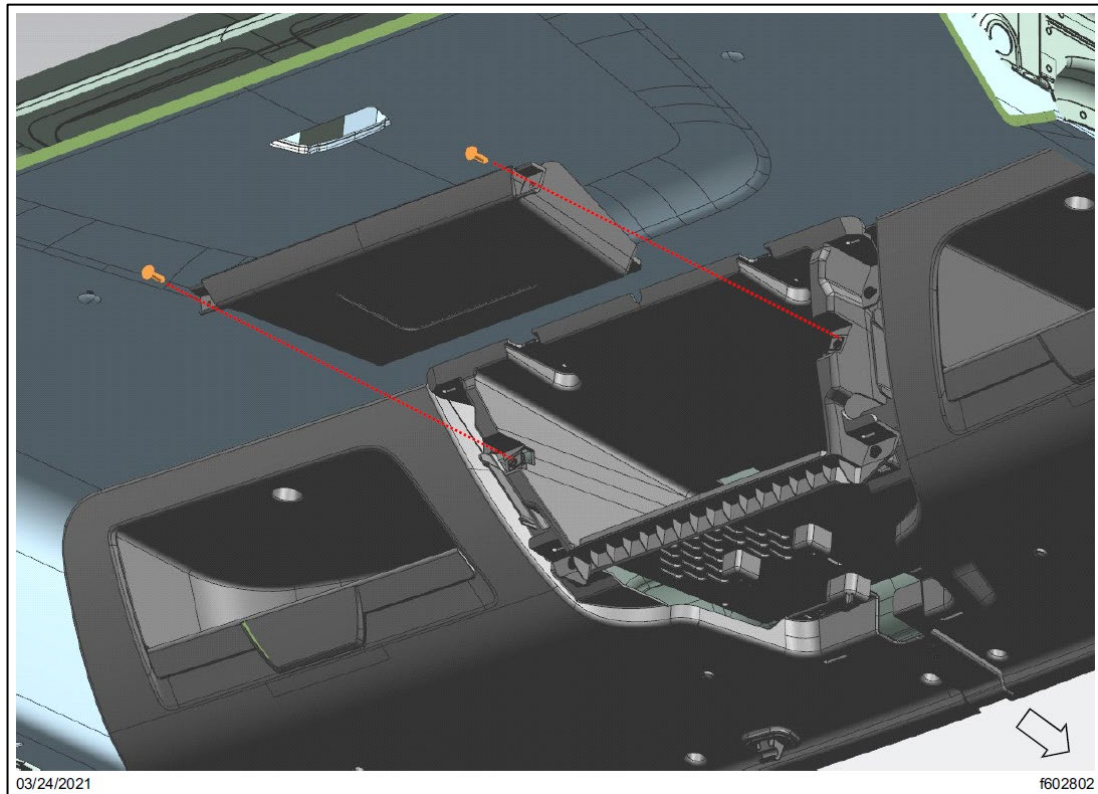
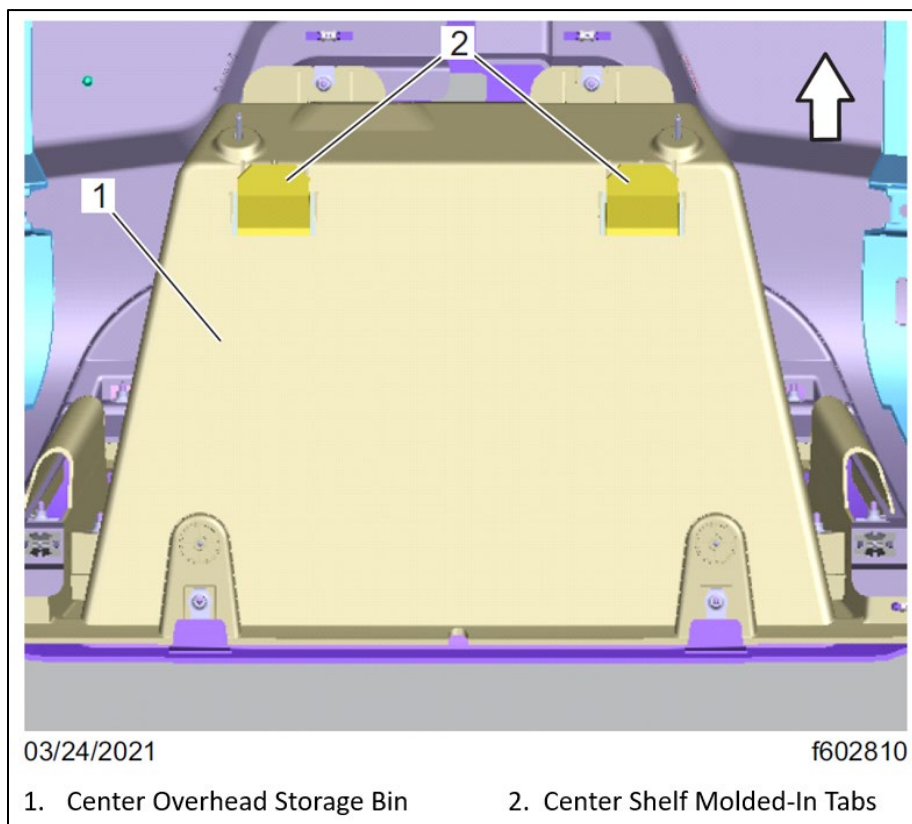

Fig. 12, Center Shelf Installation
Fig. 30, Insert Center Shelf Molded-In Tabs
- 7.5. Place the center shelf into position by inserting the molded-in tabs into the slots on the center overhead storage bin. Install the two fasteners that attach the center shelf to the center overhead storage bin. See Fig. 12 and Fig. 30. Tighten the fasteners 5 to 7 lbf.ft (6 to 9 N.m).